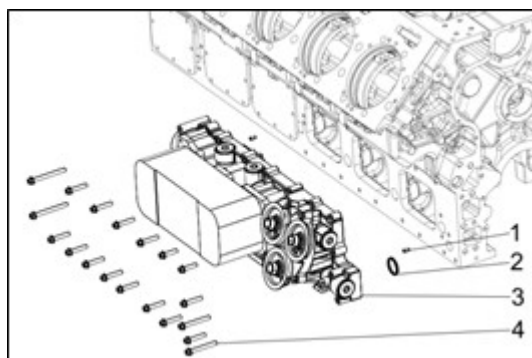

Figure 164
5. Remove the oil cooler seat (Fig 164, item 3), loosen the fixed bolts (Fig 164, item 4), remove the oil cooler seat, pay attention to the O-ring (Fig 164, item 2), remove the locating pins (Fig 164, item 1) if necessary.